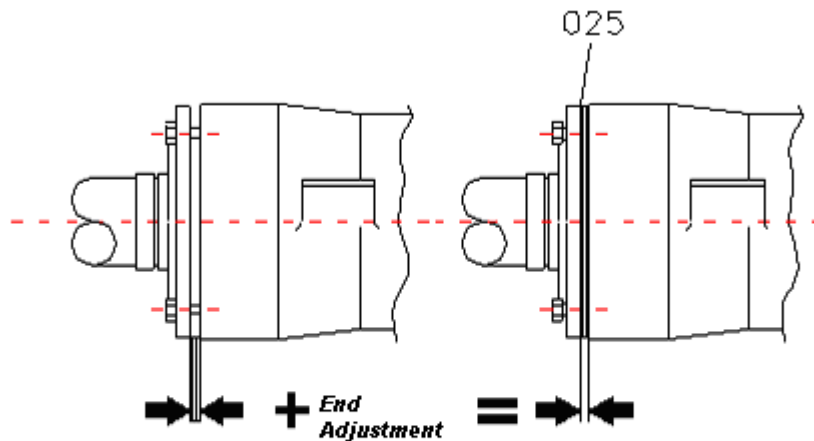

Fig. 4
6. Place the cover in the bearing house (024) in the box and insert the bolts in the bearing house cover (027). Do not use wedges in this stage. They will be used afterwards (See fig. 4);
With the wedges inserted (Fig. 4), it is necessary to move the bearing cover end back to the bearing house cover, in order to provide the bearing end pitching.